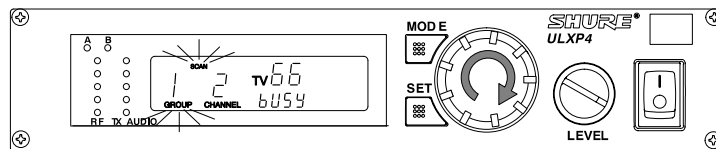

FIGURE 38
2. To begin scanning, rotate the control knob one quarter turn clockwise, as shown in Figure 38. The receiver will automatically begin scanning each Channel in all Groups. This may take up to two minutes, and the word "bUSY" will appear on the display.